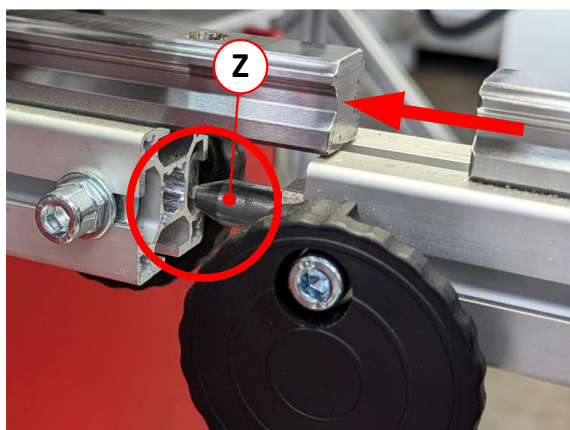

Figure 13: Centring pin (Z) and centring hole
7. Then push the separated element completely and flush against the fixed frame so that the centring bolt (Z) shown in ⇒ Figure 13 is inserted into the centring hole of the fixed frame.